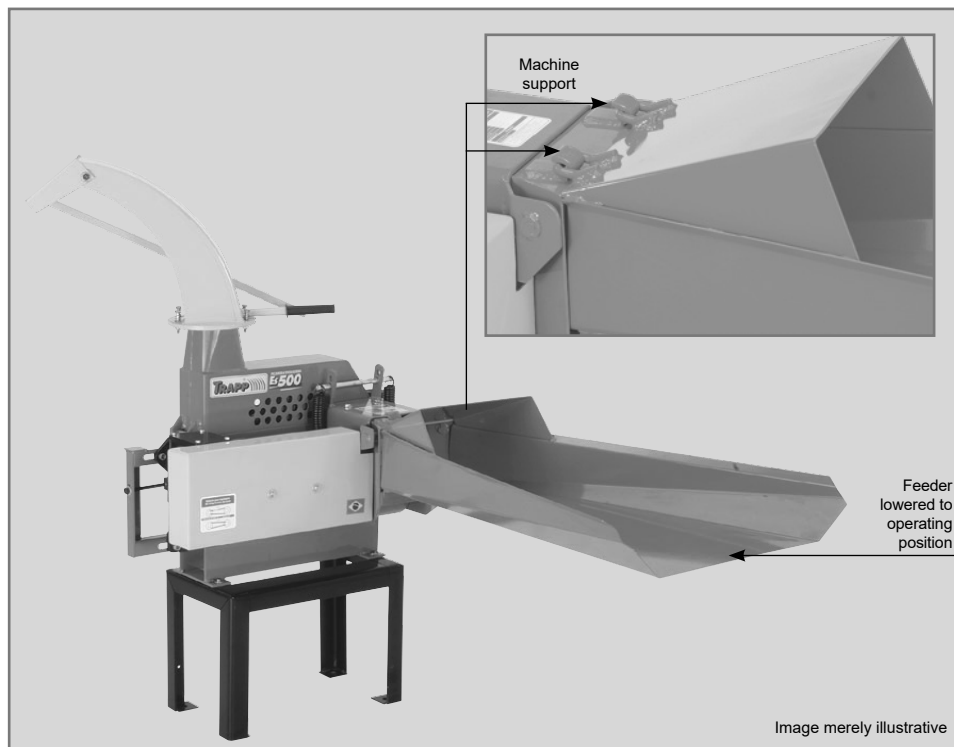

Figure 2
Some shredder items are provided unassembled, in order to assemble them, follow the instructions according to Figures 2 and 3:
- ✓ In order to assemble the green crop feeder, you must tilt the feeder in order to fit it in the machine support, as shown in Figure 2.